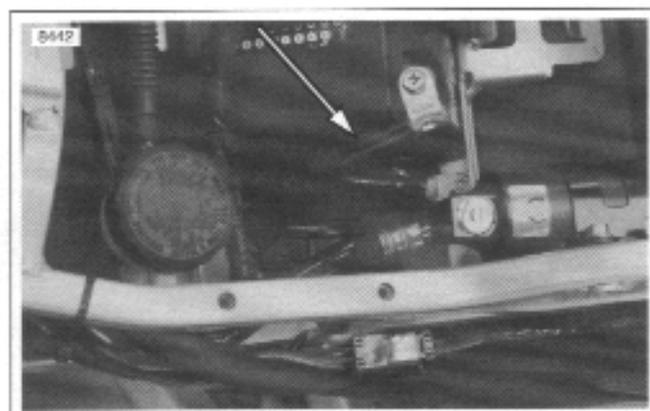

Figure 7-36. Negative Battery Cable
2. See Figure 7-36. Remove fastener to detach negative battery cable from frame.